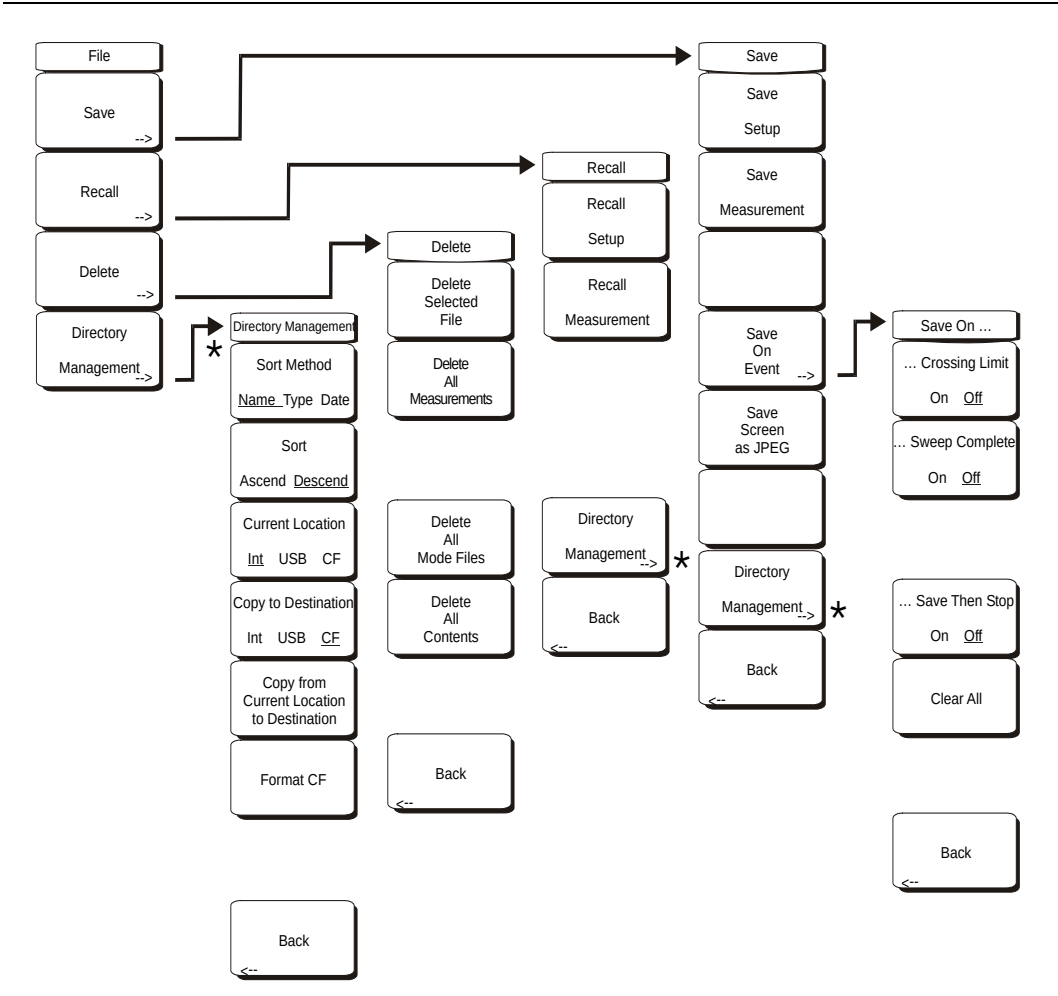

Figure 3-3. File Menu Soft Keys
To access the functions under the File menu, select the **Shift** key, then the **File** (7) key. The File menu soft keys are shown in Figure 3-3.